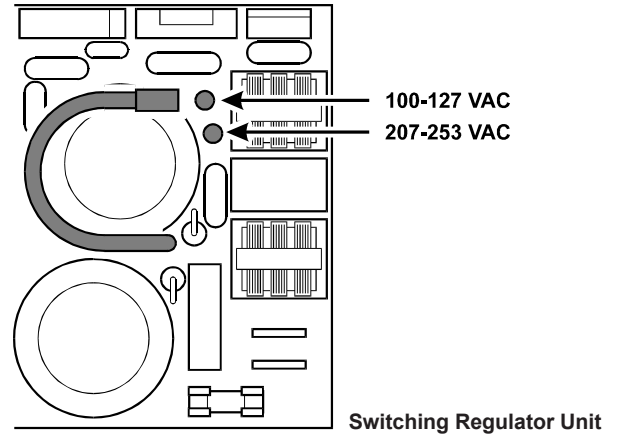

Figure 4
- ❑ Referring to Figure 4, perform the correct jumper wiring on the Switching Regulator Unit for the AC Mains voltage used in your area (100-127 VAC or 207-253 VAC).